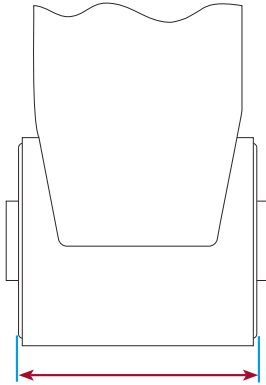

Figure 8: Wide 6" (150 mm) bush for AAT, AAL, EDT, EDL & HT
- The standard (wide) bush is 6 inches (150 mm) wide, refer Figure 8.